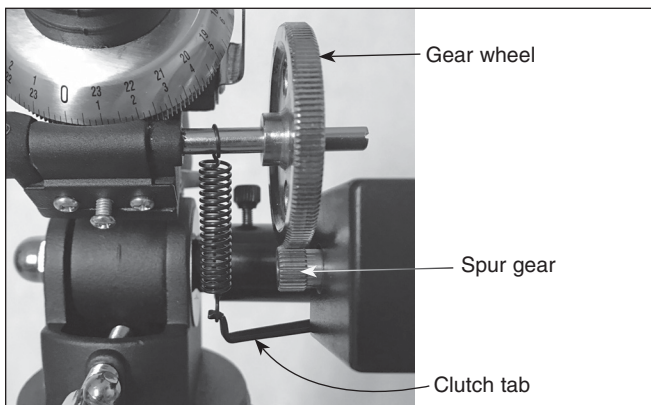

Figure 8. Attach the free end of the spring to the clutch tab of the motor.
7. Now hook the free end of the spring onto the end of the clutch tab (**Figure 8**). By doing this, the small brass spur gear should contact and mesh with the larger gear wheel as shown.